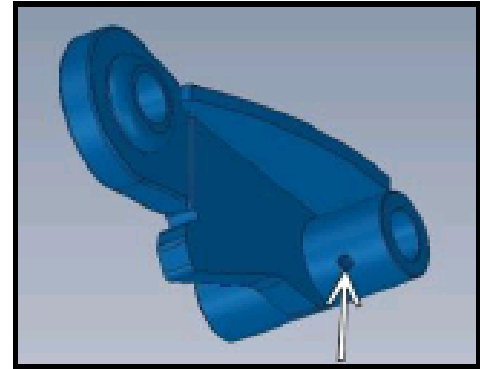

Figure 4
- Grease all lubrication points in accordance with Figure 4. It is easiest to lubricate the plough when the wings are extended.
In U-ploughs, the lubrication points are located as follows (Figures 4 and 5):